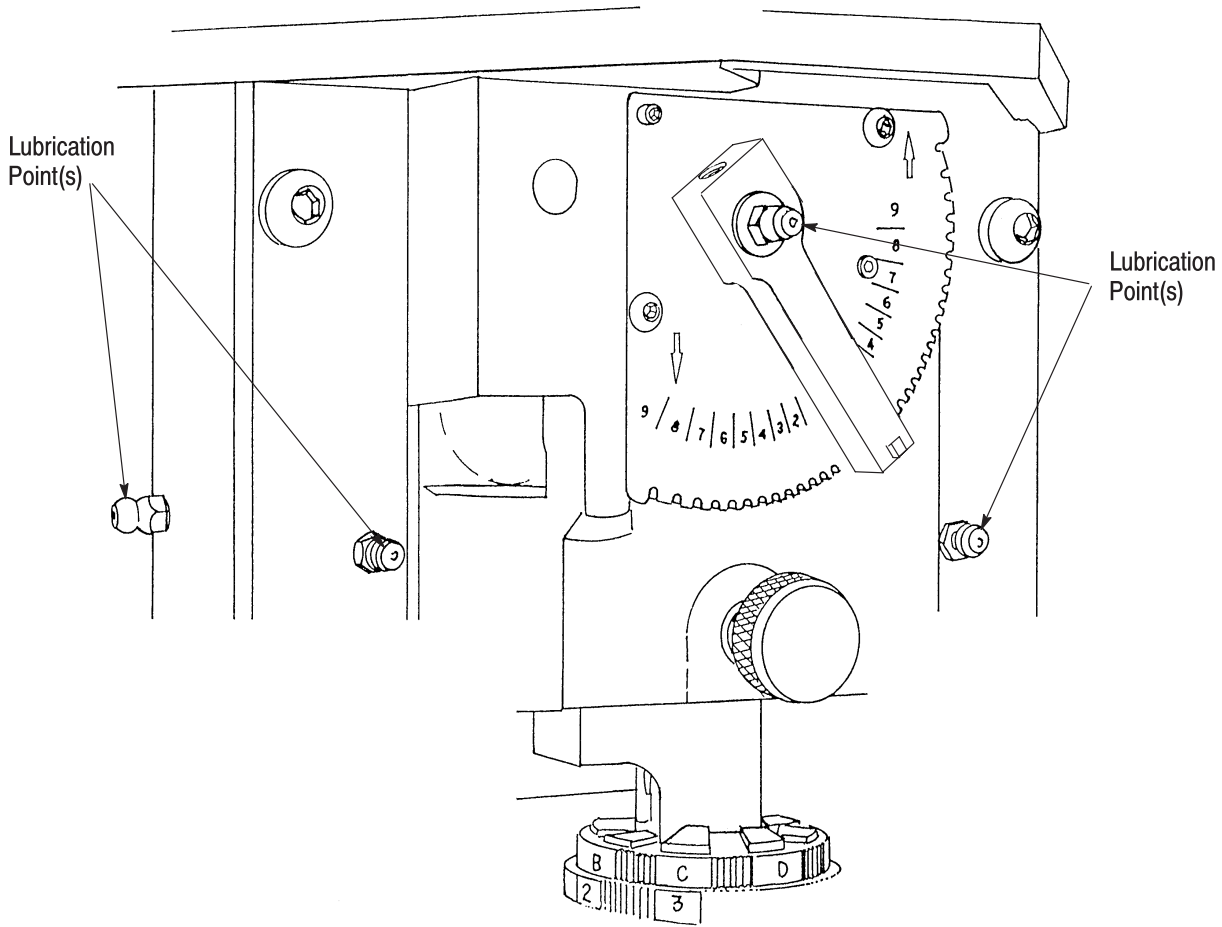

Figure 15
5.2. Lubrication (See Figure 15)